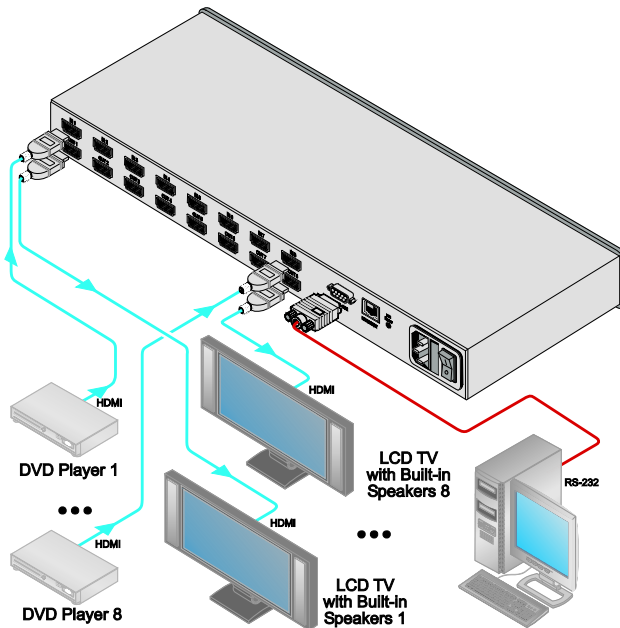

Figure 2: Connecting a VS-88H 8x8 HDMI Matrix Switcher
To connect the **VS-88H 8x8 HDMI Matrix Switcher**, as illustrated in the example in Figure 2, do the following¹:
4. Connect the power connector to the mains electricity (not shown in Figure 2).